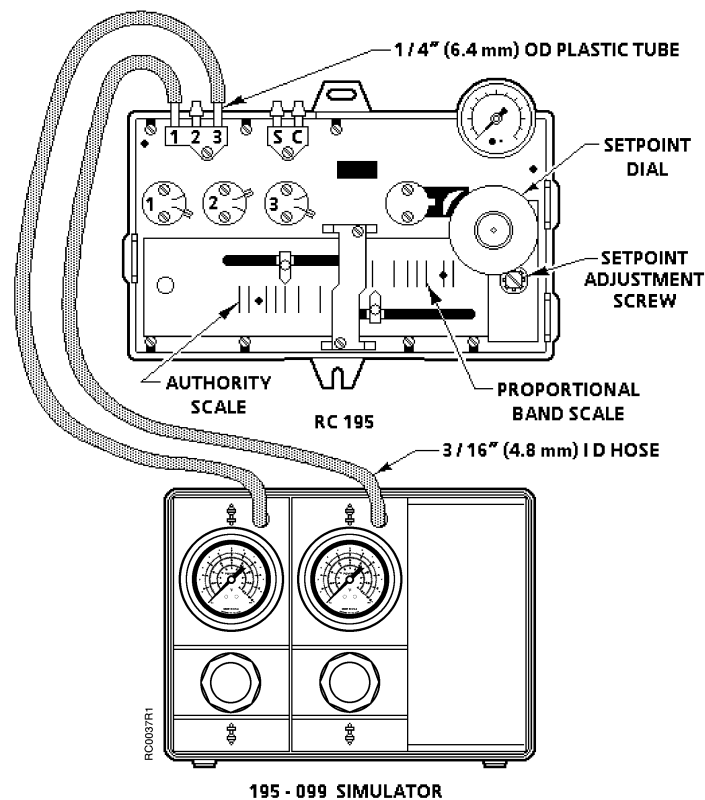

Figure 1. RC 195 Receiver-Controller with Simulator.
1. Stand the simulator on its rubber feet. The gauges must be vertical. See Figure 1.
3. Attach the 3/16-inch (4.8 mm) ID simulator hoses to the barbed connectors on the simulator. Attach short pieces of 1/4-inch (6.4 mm) OD plastic tubing to the other end of the rubber hoses to adapt to the barbed terminal(s) of the input connector which is supplied with the simulator. See Figure 1.